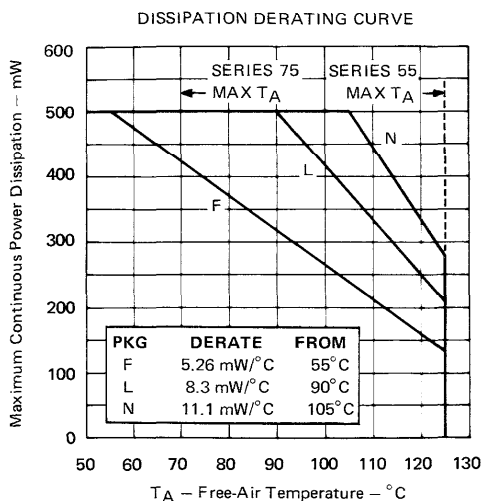

FIGURE 1
2. For operation above 55°C free-air temperature, refer to Dissipation Derating Curve, Figure 1.